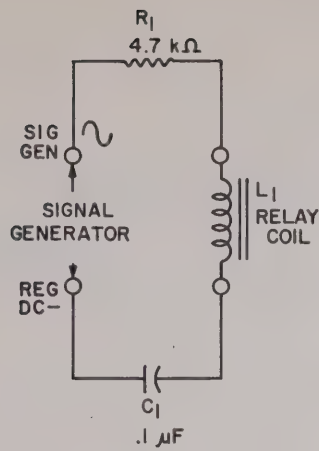

FIGURE 2-1
1. Set up the circuit of Figure 2-1 on your design console. Use the audio generator sinewave output. Note that the relay coil is used as the inductance.